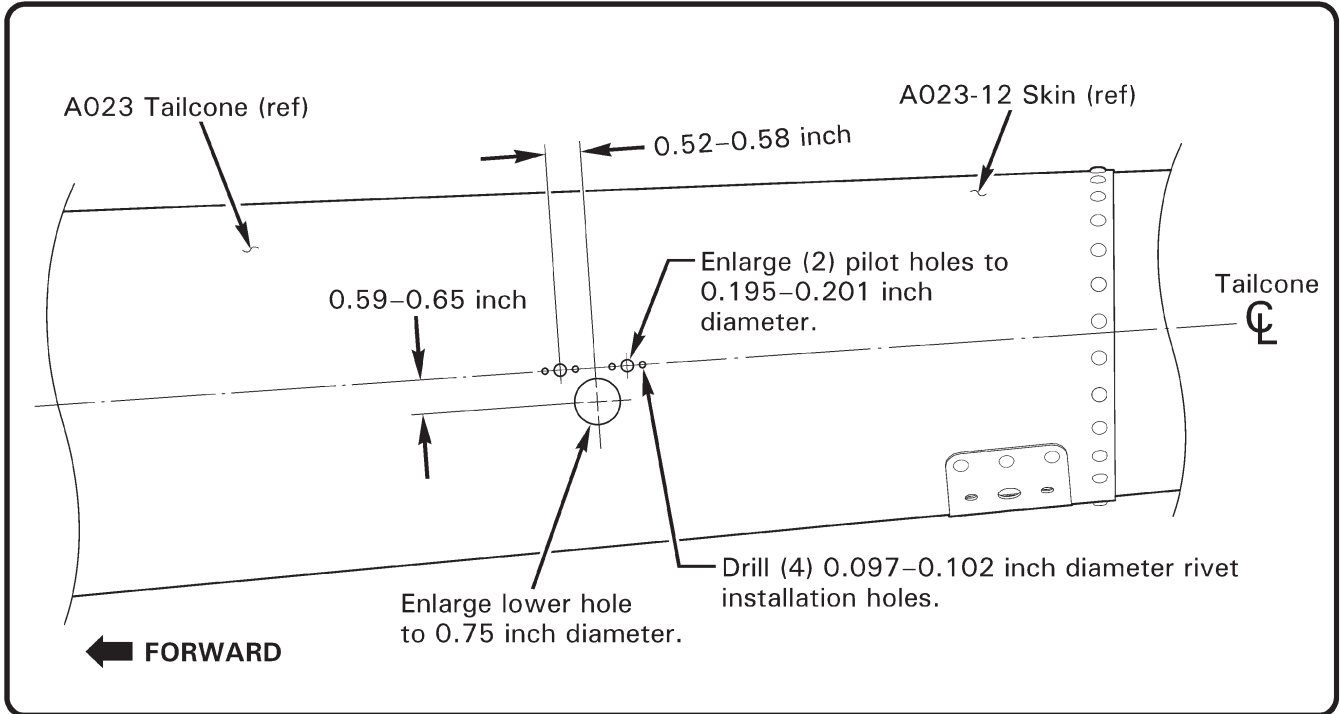

FIGURE 4 Holes for nutplate installation
7. Refer to Figure 4. Enlarge (4) newly-drilled pilot holes to 0.195–0.201 inch diameter using #8 drill fitted with drill stop. Layout dimensions to locate center of (2) 0.75 inch diameter holes, one each LH & RH side of tailcone, as shown. Drill (2) #30 pilot holes using drill fitted with drill stop at marked (center) location. Using a step drill or hole saw, enlarge (2) newly-drilled pilot holes to 0.750 inch diameter. Deburr holes. At installer's discretion, alodine and/or prime/paint hole edges as described in NOTE below.
8. Refer to Figures 4 & 5. Using appropriate 10-32 thread nutplate drill jig, match drill (8) 0.097–0.102 inch diameter nutplate installation rivet holes in A023-12 skin. Create 0.135–0.155 inch diameter, 100° countersinks at rivet installation holes. Install (4) MS21069L3 nutplates using (8) B204-5 rivets on A023-12 skin.